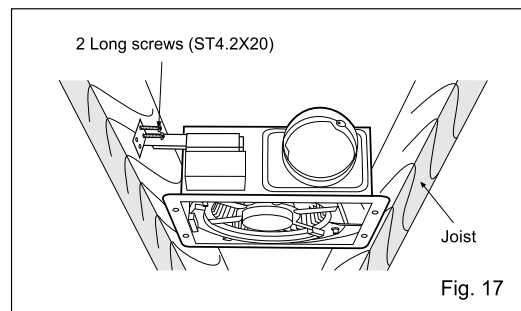

Fig. 17
4. Secure the suspension bracket to joists by using long screws (ST4.2X20). (Fig. 17, Fig. 18)